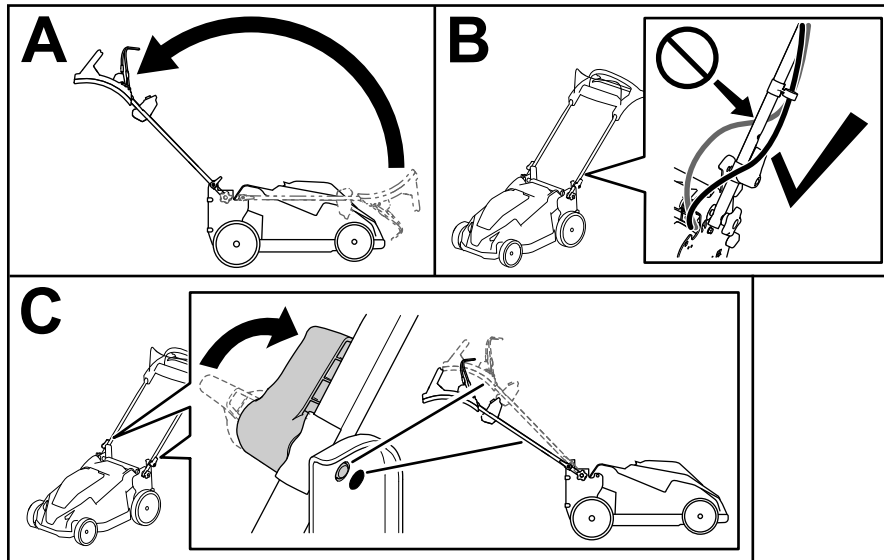

Figure 6
1. Move the handle rearward to the operating position (A of Figure 6).
2. Ensure that the cables are routed in front of the handle (B of Figure 6).
3. Engage the handle locks until the pin clicks in place to lock the handle into the operating position (C of Figure 6).